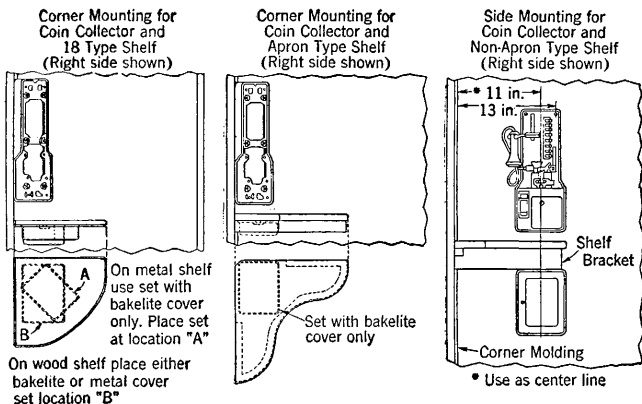
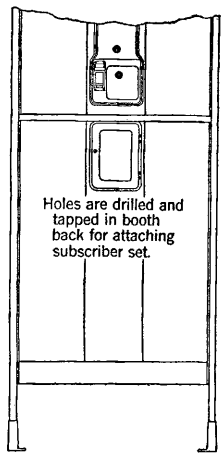

Fig. 2—Enclosed Booths
Fig. 3—Open Type Telephone Booths
2.05 At coin collector installations in booths, locate the subscriber sets according to Fig. 2 or Fig. 3.